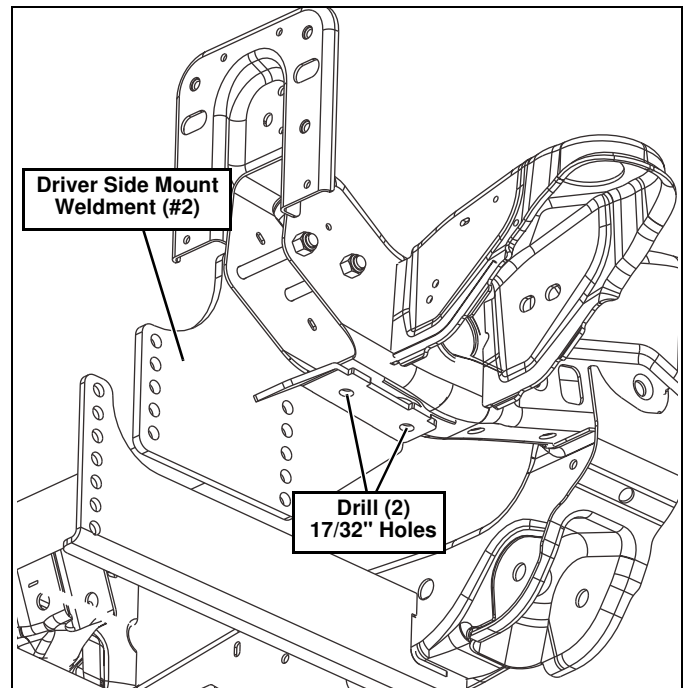

Figure 5
- Using the Driver Side Mount Weldment (#2) as a template, center punch and drill two 17/32" holes into the bottom of the frame. (See Figure 5.)